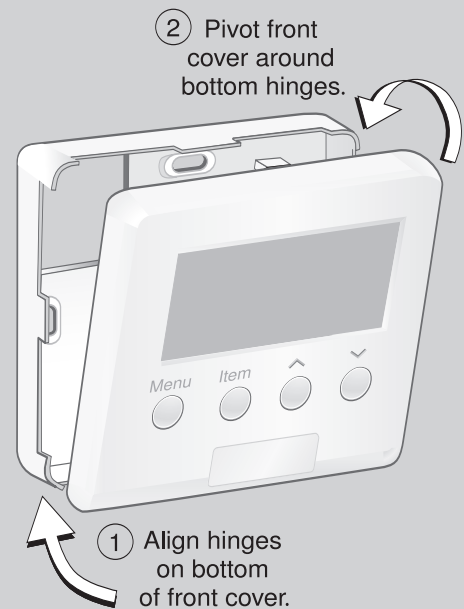

Figure 3: Installing the Front Cover
2. Pivot the front cover around the bottom hinges and push the top against the mounting base until it snaps firmly in place. (See **Figure 3**.)